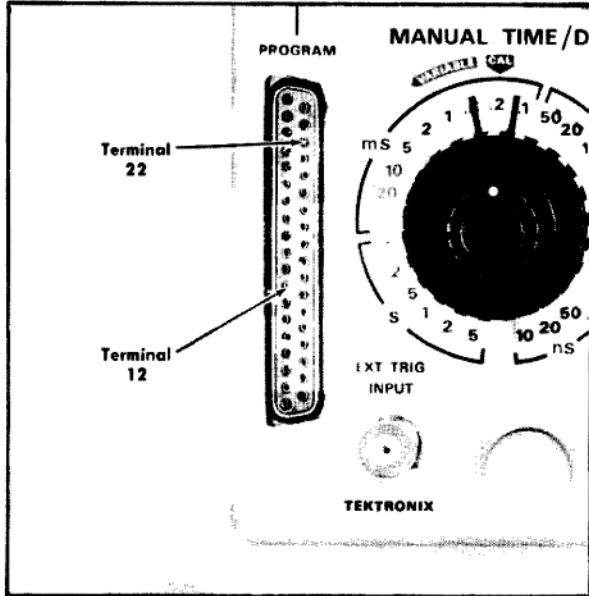

Fig. 6-26. Location of terminals 12 and 22 of PROGRAM connector (front panel).
- l. Connect a jumper lead between terminals 12 and 22 of the Type 3B5 PROGRAM connector (see Fig. 6-26).